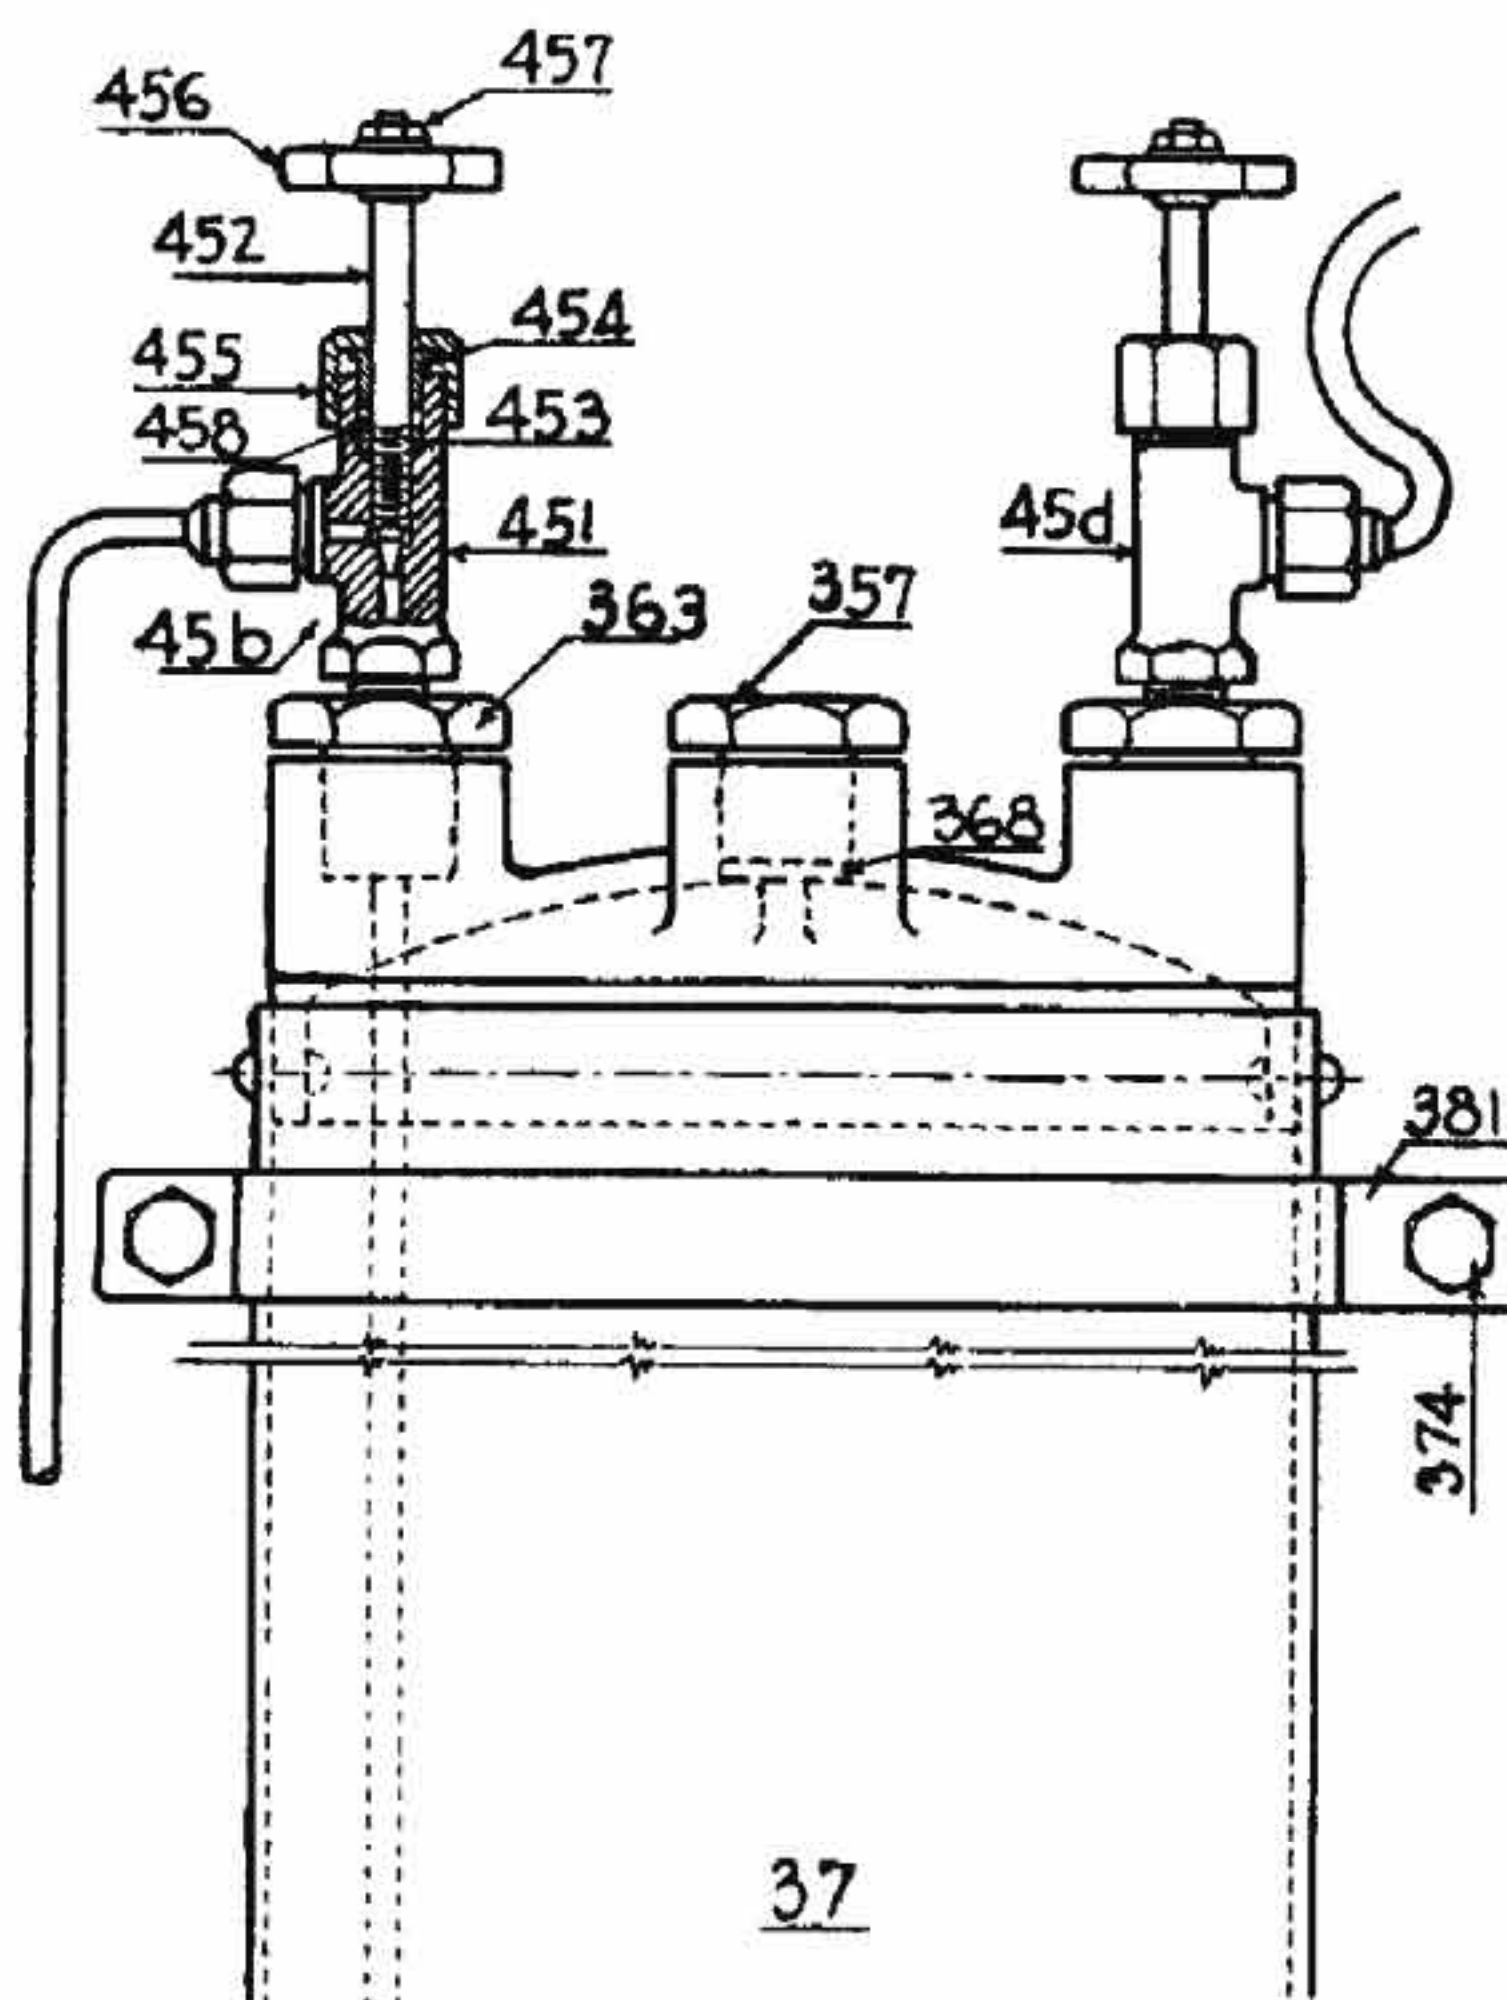

FIGURE 22-3.—Oil tank for double tank system.
A. In the double-tank system (see figs. 22-3 and 22-4), separate tanks are used for the oil reservoir and the air tank. The air tank is 8 inches in diameter and $31\frac{1}{2}$ inches high, fitted with the following accessories: An air pump, strapped to the tank, with a tube connecting the outlet valve gage to the tank through a $\frac{1}{8}$ -inch needle valve; a gage screwed into a boss on top of the air tank reading air pressure 0-100 pounds, and needle valve in the top, connected by a tube to the oil reservoir.